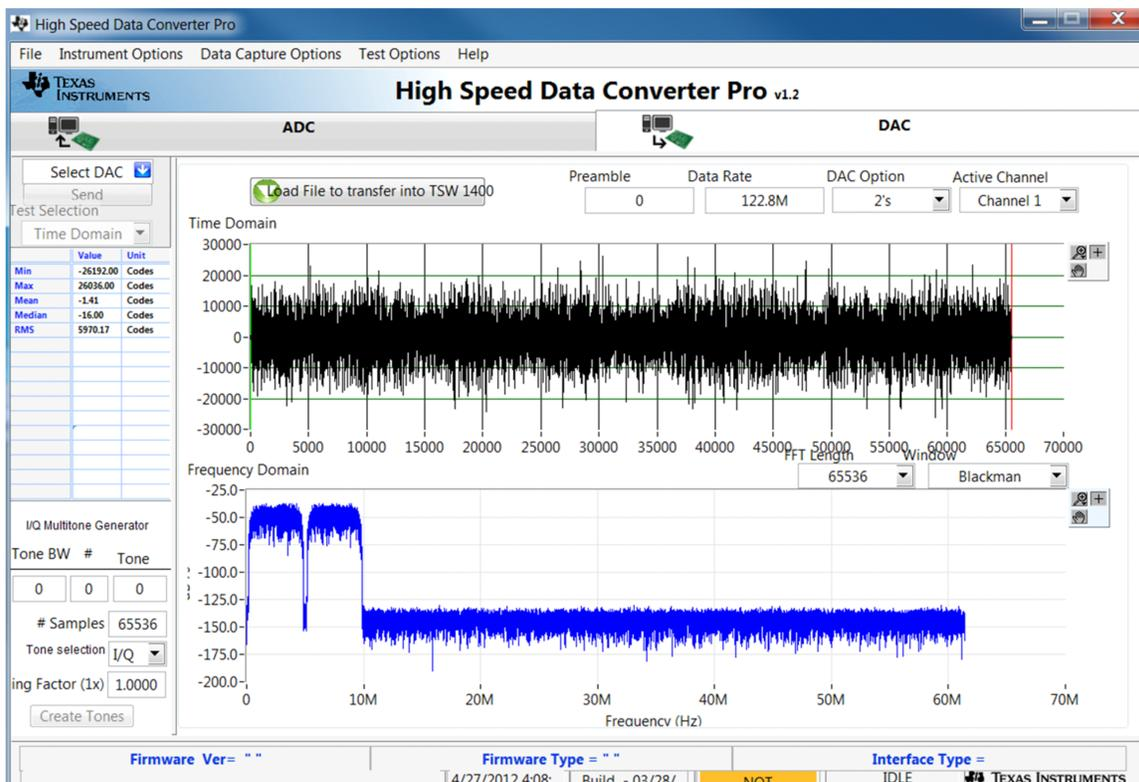

Figure 13. Two Carrier WCDMA TM1 Pattern Loaded Into High Speed Data Converter Pro
6. Change the **Data Rate** to 122.88 MHz [i.e **Chiprate** (3.84M) × Interpolation (32)], DAC Option to 2's complement and Window to Blackman as shown in Figure 13.